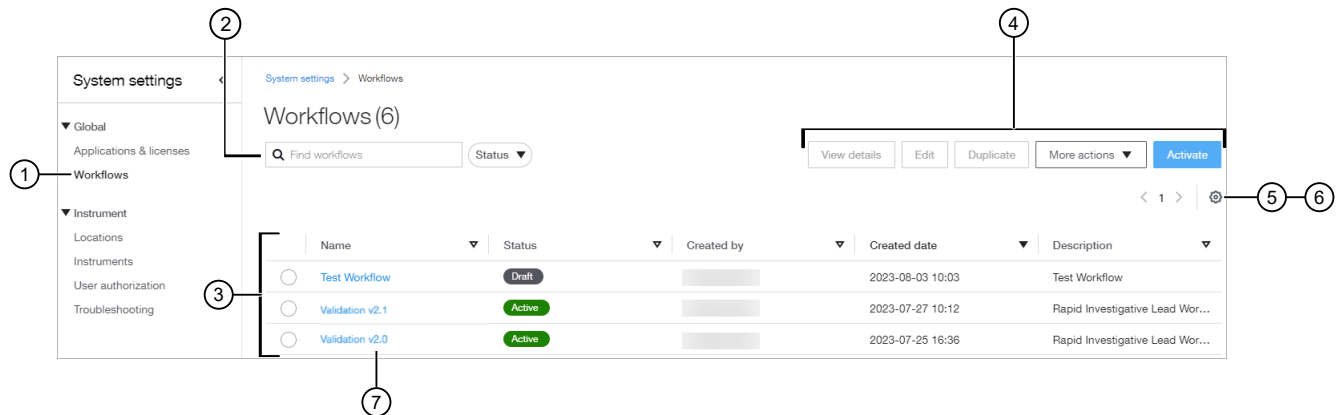

Figure 16 Workflows screen
3. Depending on your user role permissions, you can use the screen tools to perform the functions shown in Figure 16.